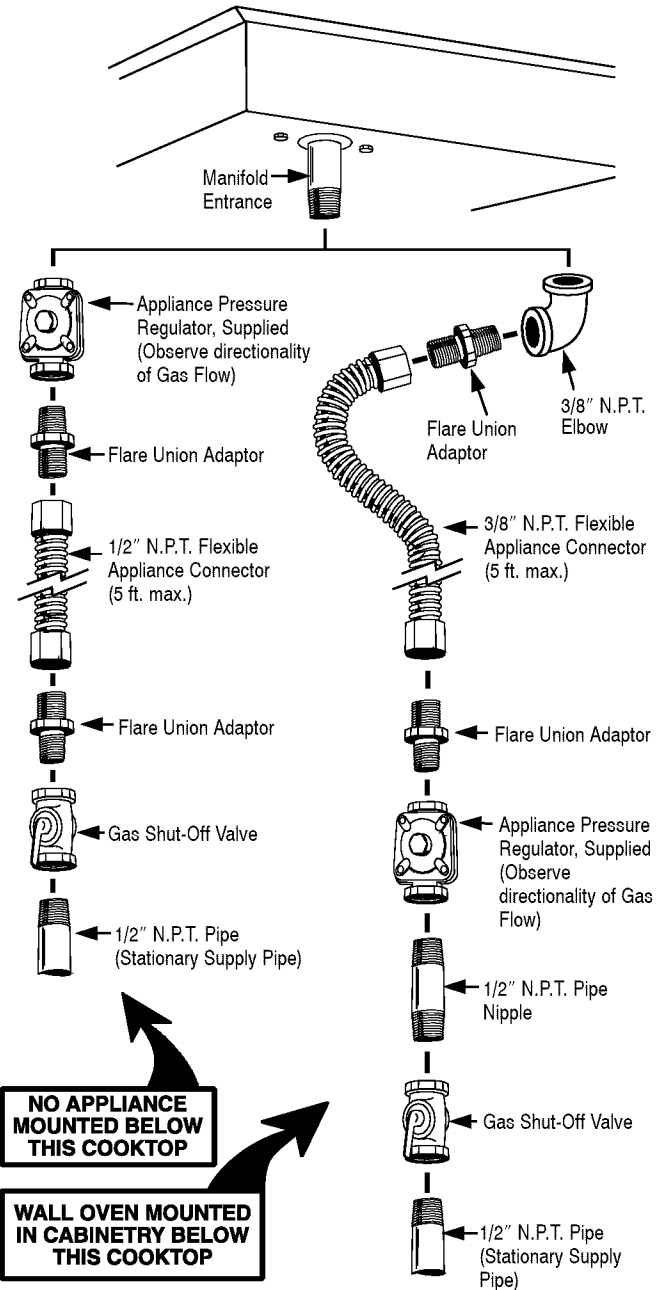

FIGURE 5
- If the alternative piping method shown in figure 5 is selected for the installation, no union is required. (The flexible appliance connector illustrated provides the union joints necessary for servicing.) When a dividing wall is present and a flexible connector is used it is recommended for convenience, in both installation and service, the flexible connector, itself, pass through the dividing wall. **Any flexible connector used with this appliance must satisfy all requirements stated in the text accompanying figure 5.**
Unless prohibited by local codes or ordinances, a new A.G.A. - Certified, flexible metal appliance connector may be used to connect this appliance to its gas supply. The connector must be no more than 5 feet in length. Per figure 5, use appropriate flare union adapter at each end of the flexible connector. If a flexible connector is used assure that both the appliance pressure regulator and manual shut-off valve are joined solidly to other permanent hard piping (either gas supply or the appliance manifold) so as to be physically stationary. See illustrations below.